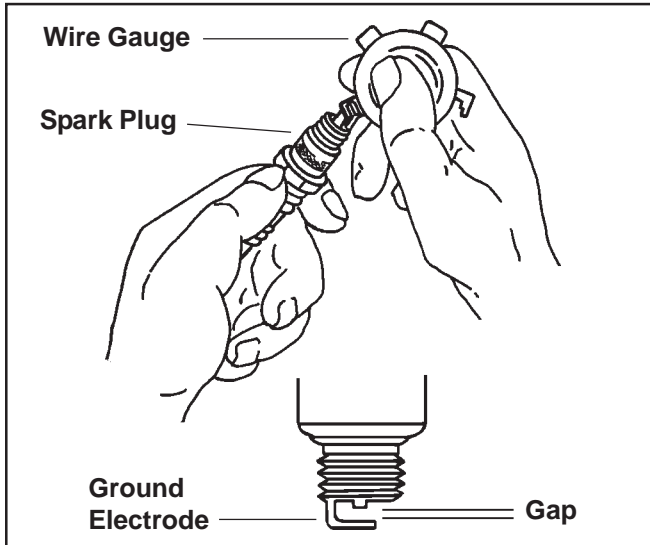

Figure 10. Servicing Spark Plug.
3. Check the gap using a wire feeler gauge. Adjust the gap by carefully bending the ground electrode. See Figure 10. Gap CV11-15, CV460-CV493 plugs to 1.0 mm (0.040 in.). Gap CV16 plugs to 0.76 mm (0.030 in.).